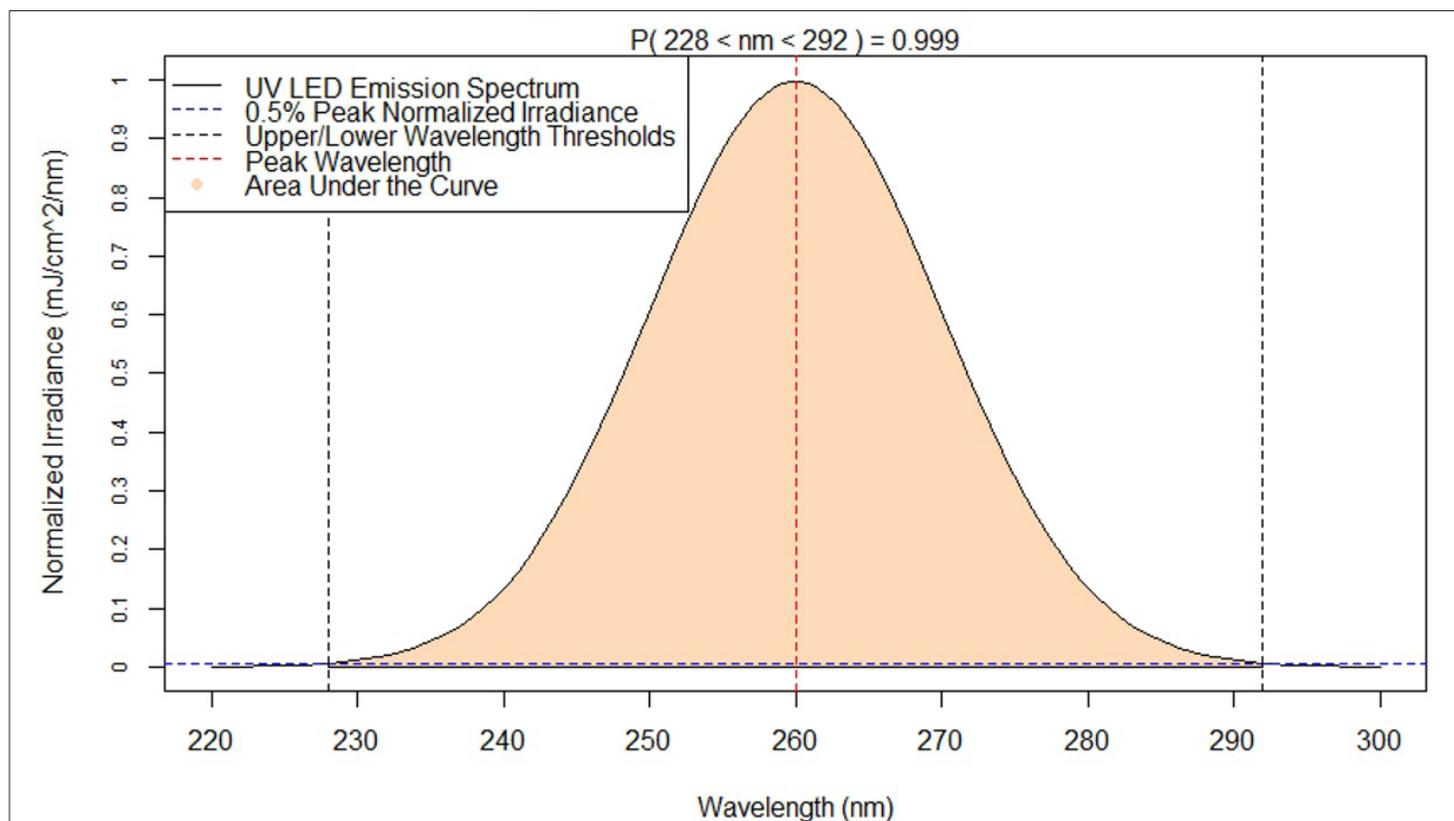

Figure 1. UV LED emission spectrum
- d) Identify the thresholds on either tail where the curve nears approximately 0.5% of the value of the peak; this will serve as the data analysis cut off point (see Figure 1).